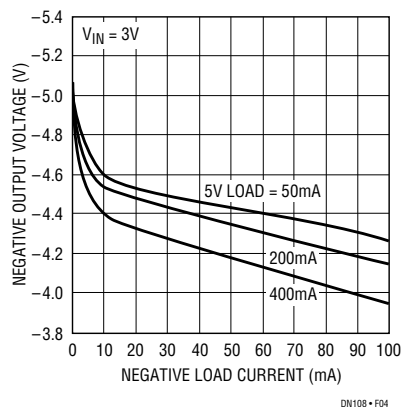
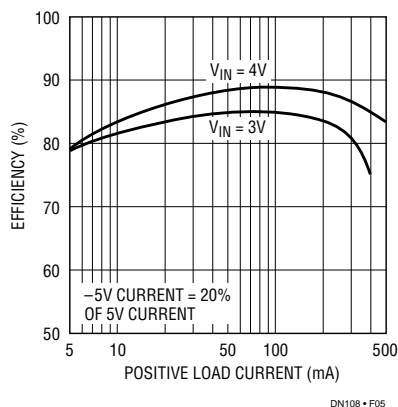

Figure 4. -5V Regulation
Figure 5. Dual Output Efficiency
-5V. This generates a -5V supply which is only quasi-regulated due to diode drop and switch saturation losses. Figure 4 shows the regulation of the negative output for various positive output load currents. As shown in Figure 5, the dual output converter has high efficiency over two decades of load current.